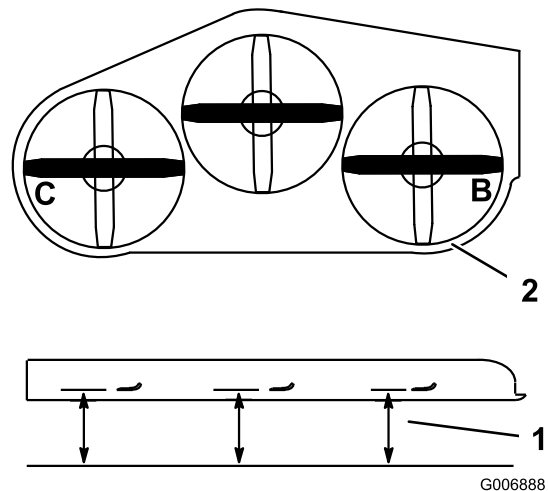

Figure 78
4. Measure at the **B** and **C** locations from a level surface to the cutting edge of blade tips (Figure 78).